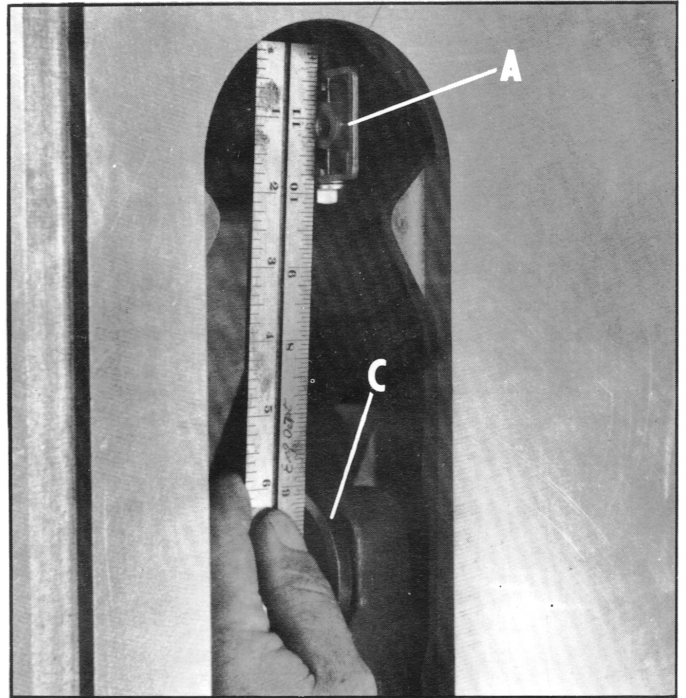

Fig. 8
2. Using a straight edge, align the top and bottom of the bracket (A) to the saw arbor flange (C), as shown in Fig. 8. Then tighten the two screws that fasten the bracket to the inside of the saw carriage.